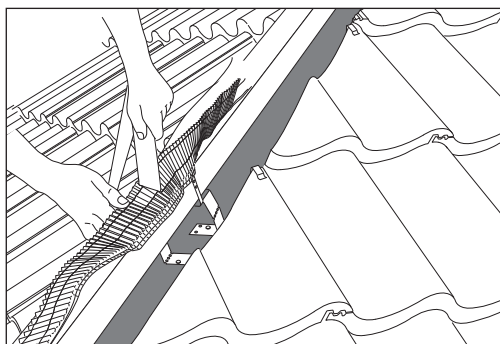

Fig 9 Remove backing tape
- 9 Cut a HipFast Hip Support Tray to suit angle and overhang of tiles at eaves, and fix centrally over hip rafter battens using the nails provided (Fig 9).